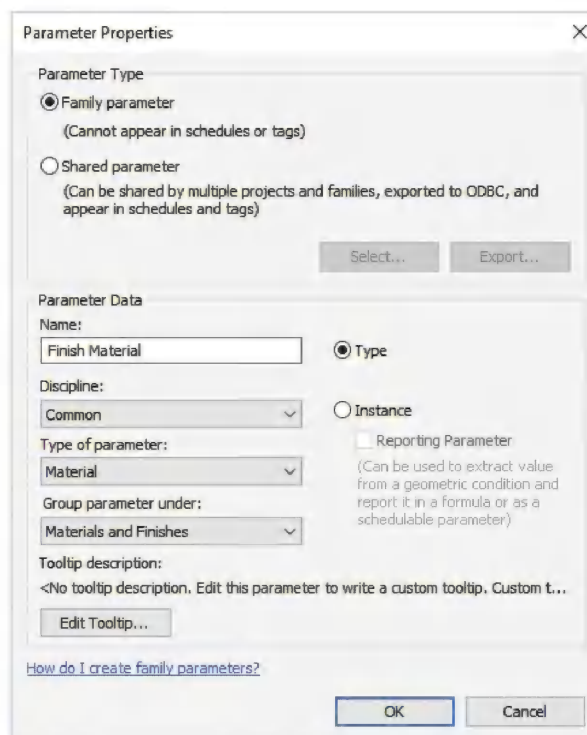

FIGURE 15-4.16 Creating a new parameter
31. Modify the *Parameter Properties* dialog as shown in Figure 15-4.16.